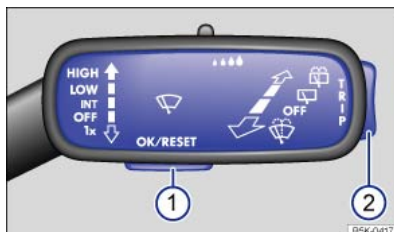

Fig. 24 On the right of the steering column: buttons on the wiper lever (illustration).
If any priority 1 $\Rightarrow$ *Instrument cluster* warnings are displayed, you will be unable to open any menus. Some warnings can be confirmed and hidden with the $\Rightarrow$ **Fig. 24 ①** button.
- If a message or vehicle pictogram is displayed, press the $\Rightarrow$ **Fig. 24 ①** button, several times if necessary.
- To display the menus $\Rightarrow$ *Instrument cluster menus* or to return from a menu or an information display to the menu selection, hold down the rocker switch $\Rightarrow$ **Fig. 24 ②**.
- To open the displayed menu or information display, press the $\Rightarrow$ **Fig. 24 ①** button or wait until the menu or information display opens automatically after a few seconds.
- In the displayed menu, press the rocker switch $\Rightarrow$ **Fig. 24 ②** up or down until the desired menu option is marked. A frame appears around the selected option.
- Press button $\Rightarrow$ **Fig. 24 ①** to make the necessary change. A tick indicates that the particular system or function is active.